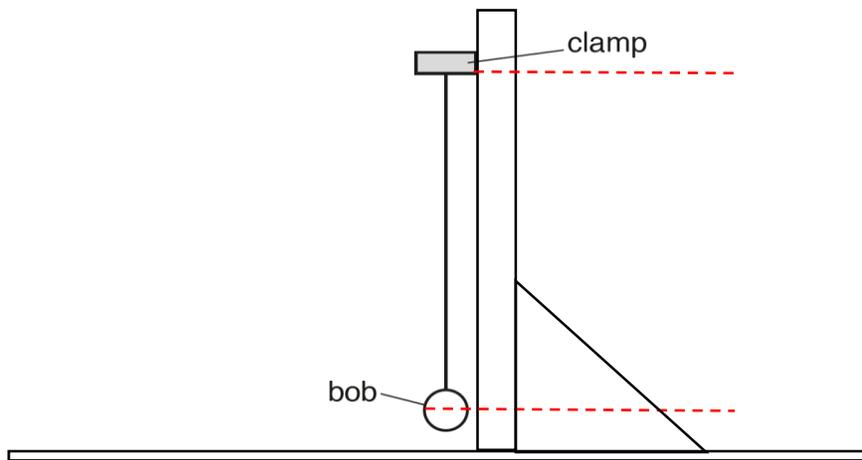

Fig. 4.2
- (ii) Use Fig. 4.2 to explain how you would measure the length  $l$  accurately. You may draw on the diagram.